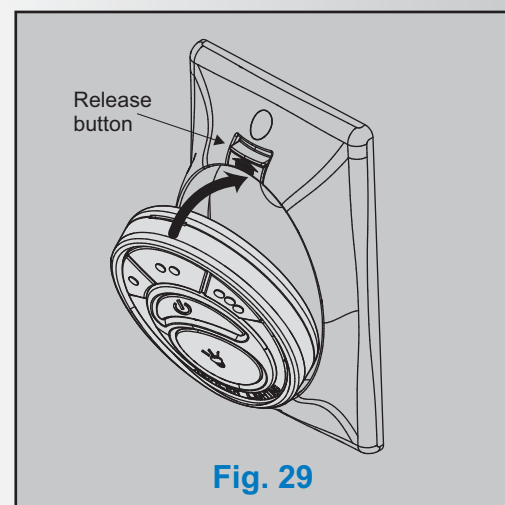

Fig. 29
1. Insert the transmitter into the wall plate by inserting the bottom of the transmitter first and then press the top of the transmitter into the pocket. The transmitter will fully function from this location or you can remove the transmitter and use as a "Hand Held" device. (Fig. 29)